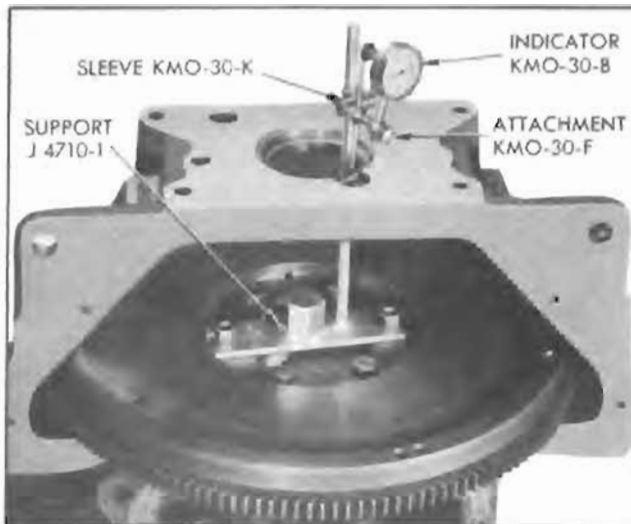

Figure 2-41—Checking Alignment of Flywheel Housing
2. Attach Indicator Support J 4710-1 to flywheel with two flywheel bolts. Mount Dial Indicator KMO 30-B and Hole Attachment KMO 30-F on pilot with Sleeve KMO 30-K. Adjust ball end of hole attachment to bear against side of pilot hole in flywheel housing. See figure 2-41.